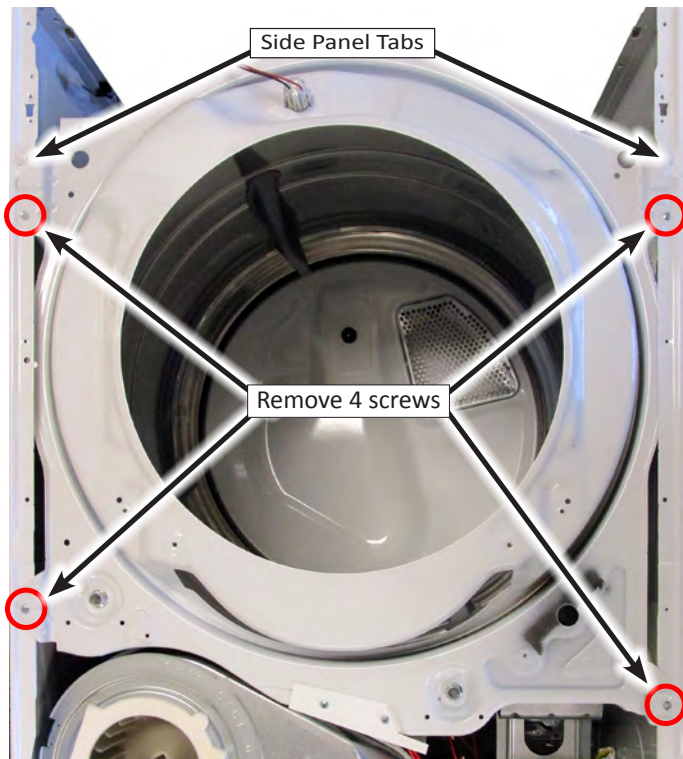

Figure 4 - Remove front bulkhead screws.
- Remove the four (4) 1/4" hex-head screws securing the front bulkhead to the side panels as illustrated in Figure 4. Lift the bulkhead up off the side-panel tabs and remove.